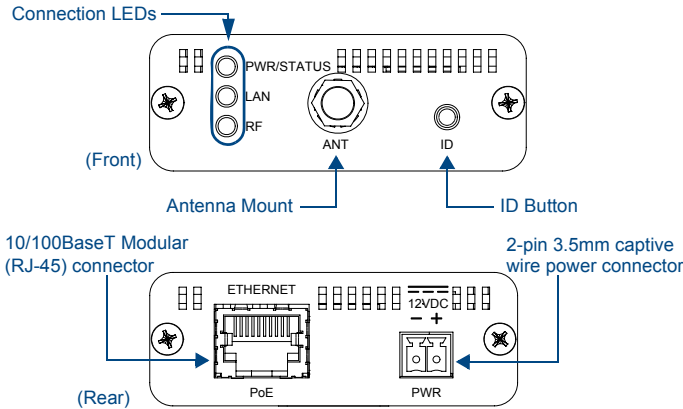

FIG. 1 NXR-ZGW-PRO (front and rear)
1. Confirm that the NXR-ZGW-PRO is receiving power by checking the PWR LED (shown in FIG. 1).